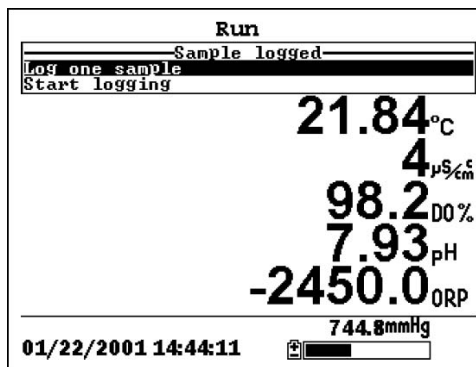

Figure 9.11 Sample Logged Screen
7. If a single point is being logged, the header on the run screen changes momentarily from **Menu** to **Sample logged** to confirm that the point was successfully logged. See Figure 9.11 *Sample Logged Screen*. Skip to Step 9.